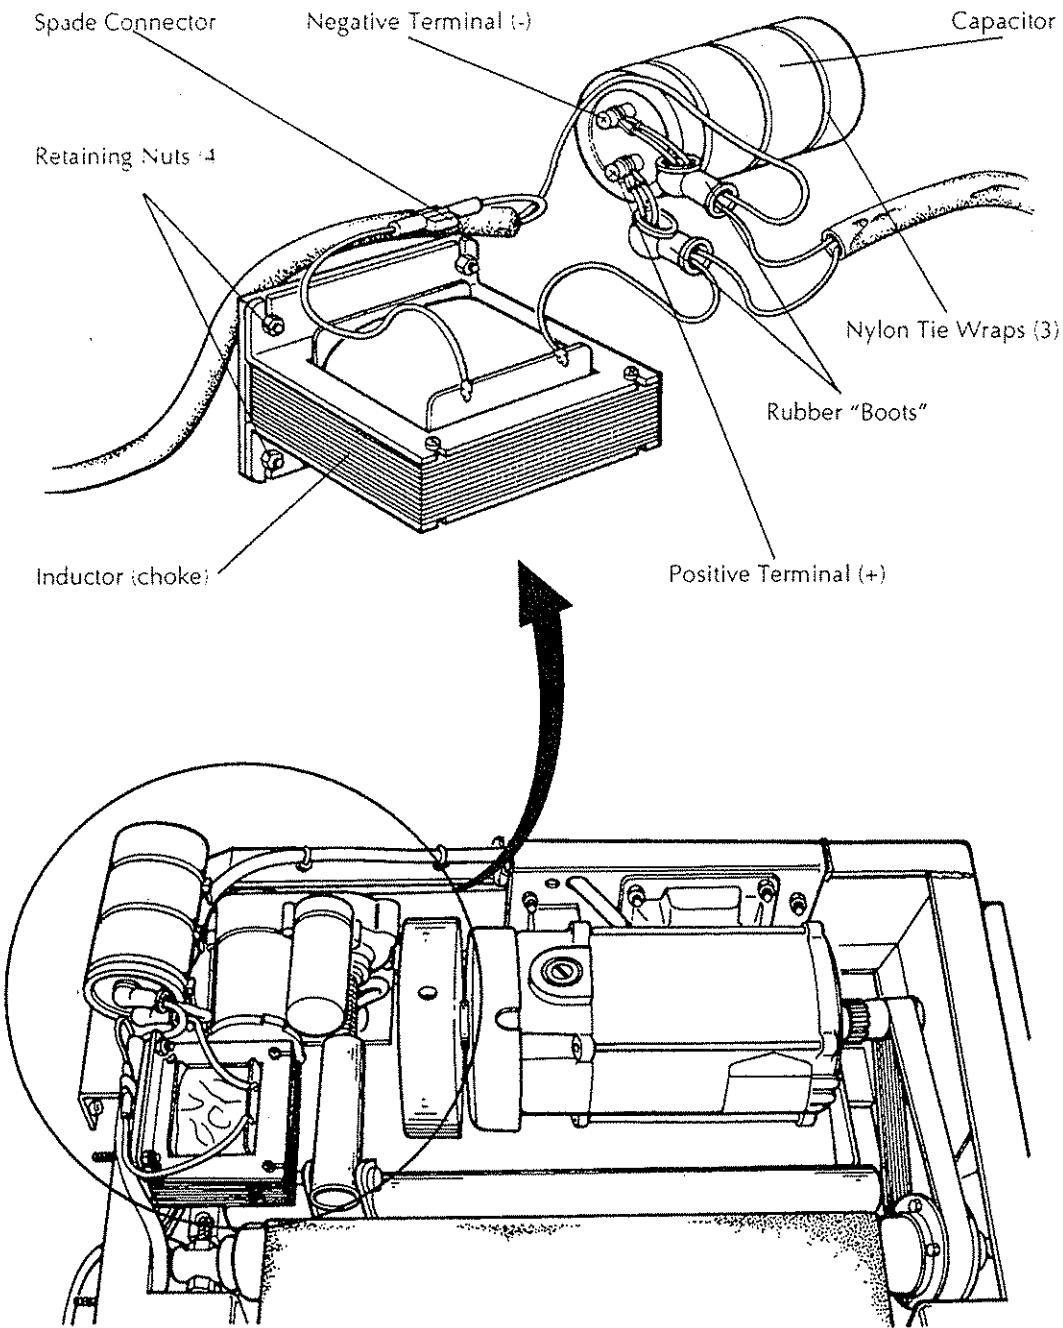

Figure 5-7: LC Filter (Inductor/Capacitor)
2. Discharge the LC filter capacitor. Refer to Figure 5-7 and complete the following: